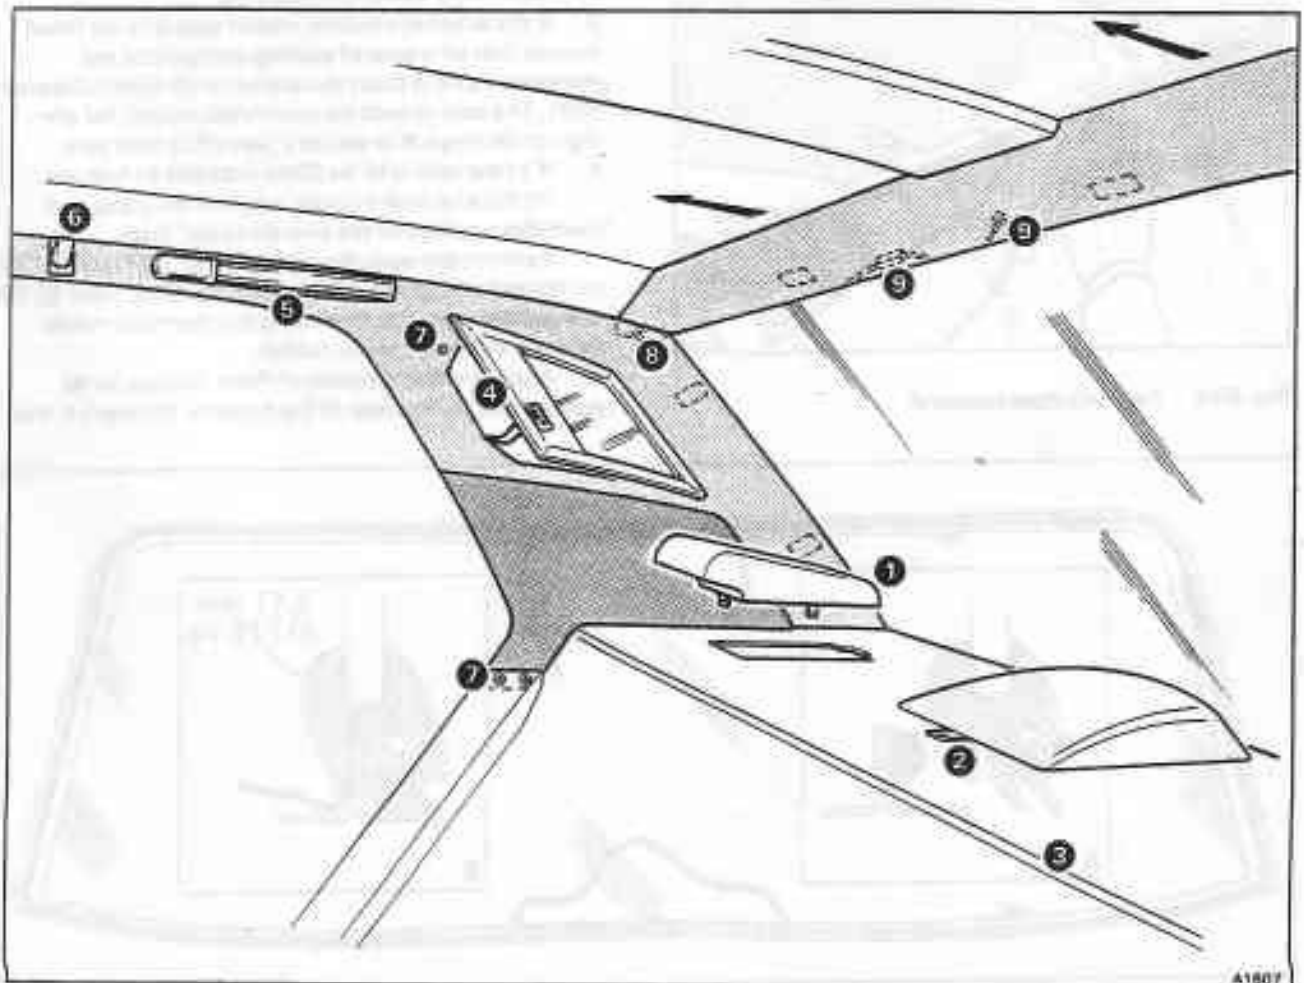

Fig. S9-1 Rear window interior trim
5. Unclip and remove the seat belt covers (see fig. S9-1, item 1).